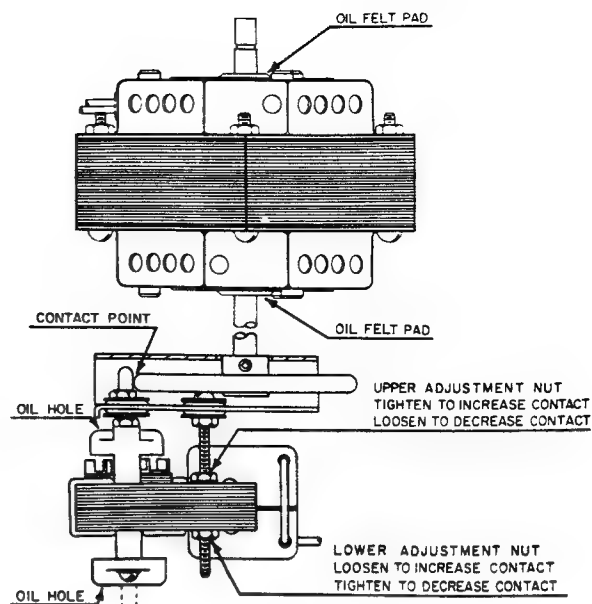

Fig. 12
4. Saturate bearing felts at either end of the large motor. (See "OIL FELT PAD," Fig. 12.) Use oiler supplied or any good grade of light machine oil. Don't over-lubricate.
5. Remove the shaft adjustment nut from the free end of the shaft adjustment screw. (See "LOWER ADJUSTMENT NUT," Fig. 12.)
9. Saturate bearing felts at either end of the small motor. (See "OIL HOLE," Fig. 12.)
The small motor drives the shaft of the large motor at slow speed by making contact with the rim drive wheel assembly. (See Fig. 12.) The small motor armature is spring loaded, withdrawing from the rim drive wheel assembly when the small motor is not operating.
2. Loosen the contact adjustment nuts on the small motor until small motor shaft no longer touches the rim drive wheel assembly. (See Fig. 12.)
4. Slowly tighten **upper** adjustment nut until the small motor shaft forces the drive pulley to turn under the drive belt. (See Fig. 12.)
5. Tighten the **lower** adjustment nut (see Fig. 12.) against small motor laminations.